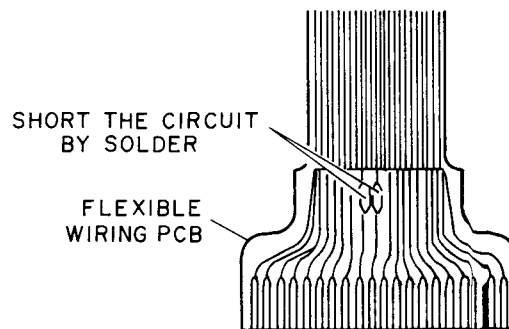

Fig 4-1
- 3) When connecting or disconnecting the RF AMP PCB (J201), make sure that the FLEXIBLE WIRING PCB is shorted circuit as shown in Fig. 4-1.